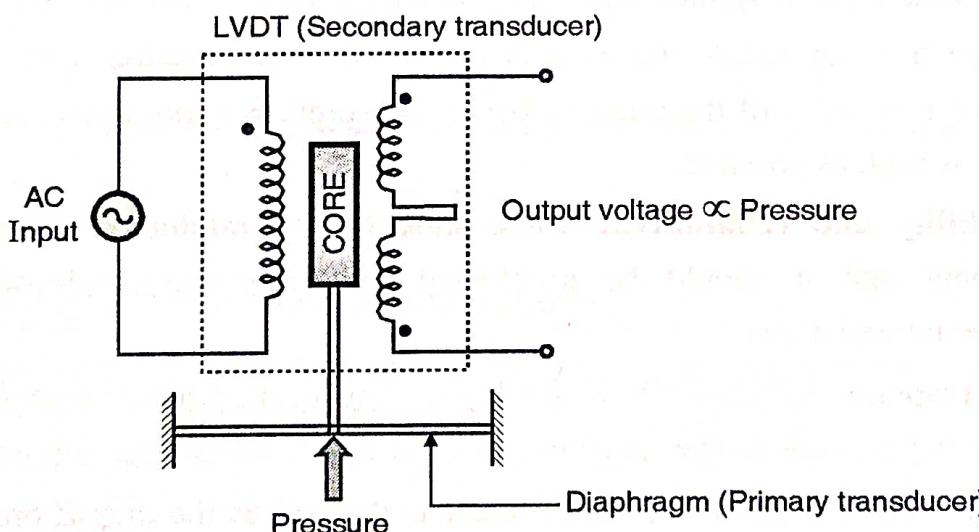

Fig. 1.5.3 : Primary and secondary transducers
- (1) Some transducers contain the mechanical as well as electrical devices. The mechanical device converts the physical quantity to be measured into a mechanical signal. Such mechanical devices are called as the primary transducers, because they deal with the physical quantity to be measured.
- (2) The electrical device then converts this mechanical signal into a corresponding electrical signal. Such electrical devices are known as the secondary transducers.
- (3) Refer Fig. 1.5.3 in which the diaphragm acts as a primary transducer. It converts pressure (the quantity to be measured) into displacement (the mechanical signal).